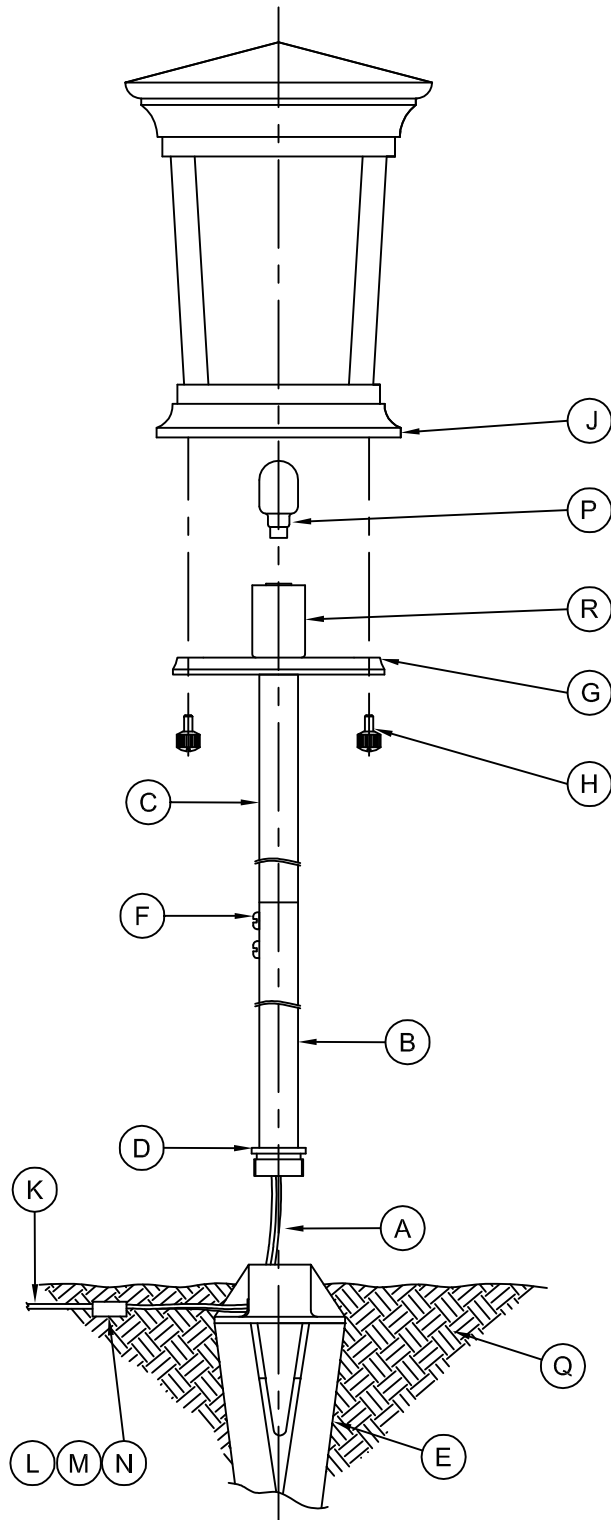

FIG. 1
5. E —————> Q (FIG. 1)
5. E → Q (FIGURE 1)